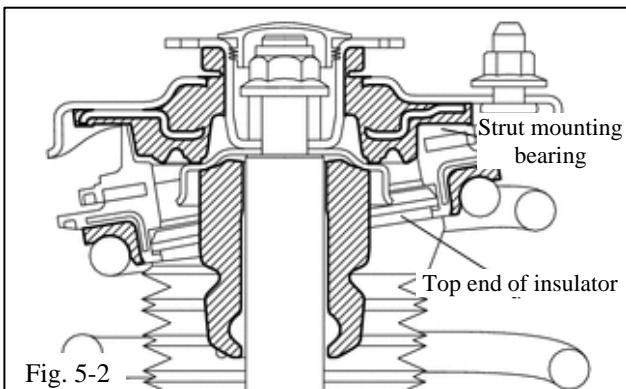

Fig. 5-2
- (b) Install the front spring seat sub-assembly with insulator to the front shock absorber assembly (Fig. 5-2).